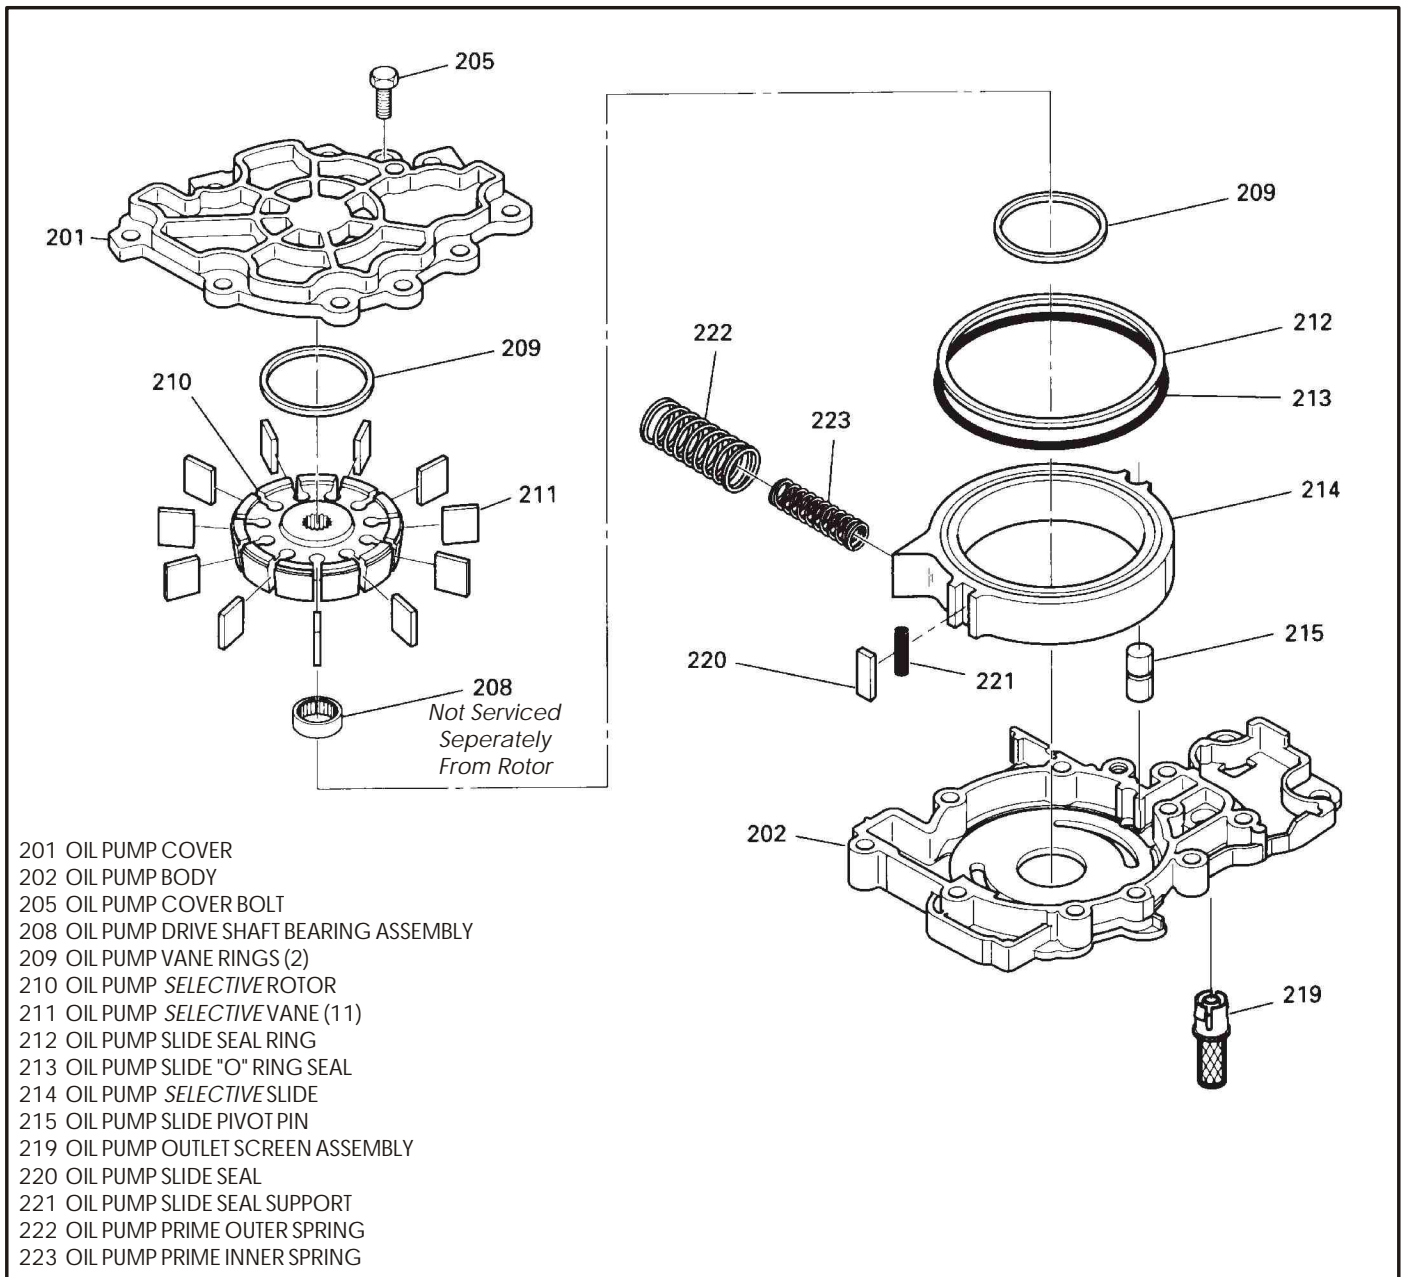

Figure 130
1. Inspect all oil pump components for any wear or damage. Use Figure 130 as a reference.
4. Install the pivot pin and the pump slide into the pump body. Refer to Figure 130.
8. Install the proper **tapered** rotor into the pump pocket with small diameter facing down, as shown in Figure 130.
10. Install the second vane ring onto rotor inside of the vanes (See Figure 130).
11. Install the "O" ring seal and slide seal into the groove in the pump slide (See Figure 130).
12. Install the pump cover and retaining bolt, as shown in Figure 130, and torque the bolt to 8 N.m (70 in.lb.).
14. Install the pump screen (219) into the pump body and set the completed oil pump assembly aside for the final assembly process.